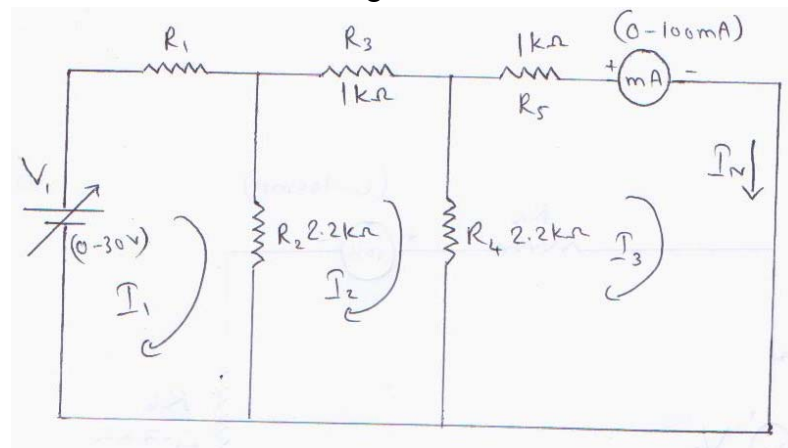

Figure 3.2
3. Now connect the circuit diagram in figure 3.2 in bread board (Removing the load resistor  $R_6$  and shorting the terminals).